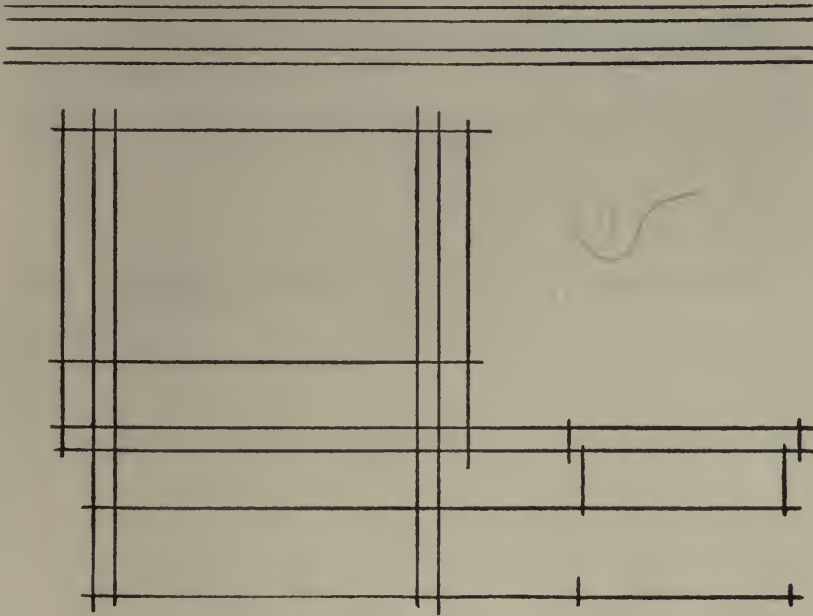

Fig. 5.
- (2) Locate and draw the main vertical lines. These lines should also be light and of indefinite length. (See Fig. 5.)